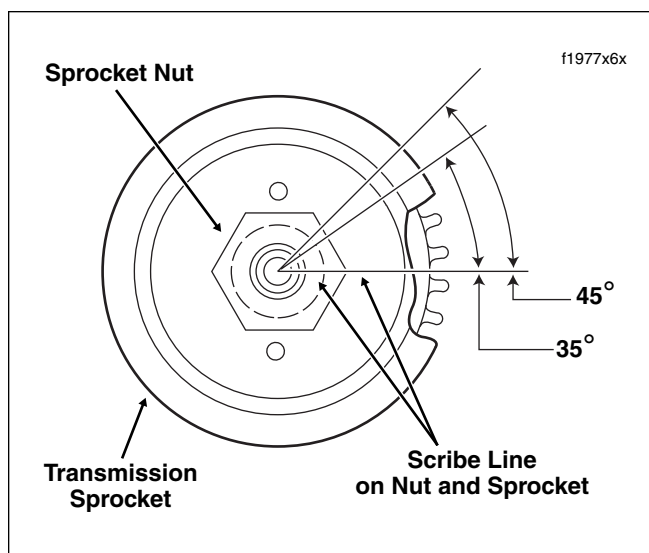

Figure 7-46. Tighten/Secure Sprocket Nut
9. Scribe a straight line on the transmission sprocket nut continuing the line over onto the transmission sprocket as shown in Figure 7-46. Tighten the transmission sprocket nut an additional 35° to 40°.
11. If holes in lockplate do not align with those in sprocket, tighten sprocket nut as necessary (up to the 45° maximum) until sprocket and lockplate holes are in alignment. See Figure 7-46.